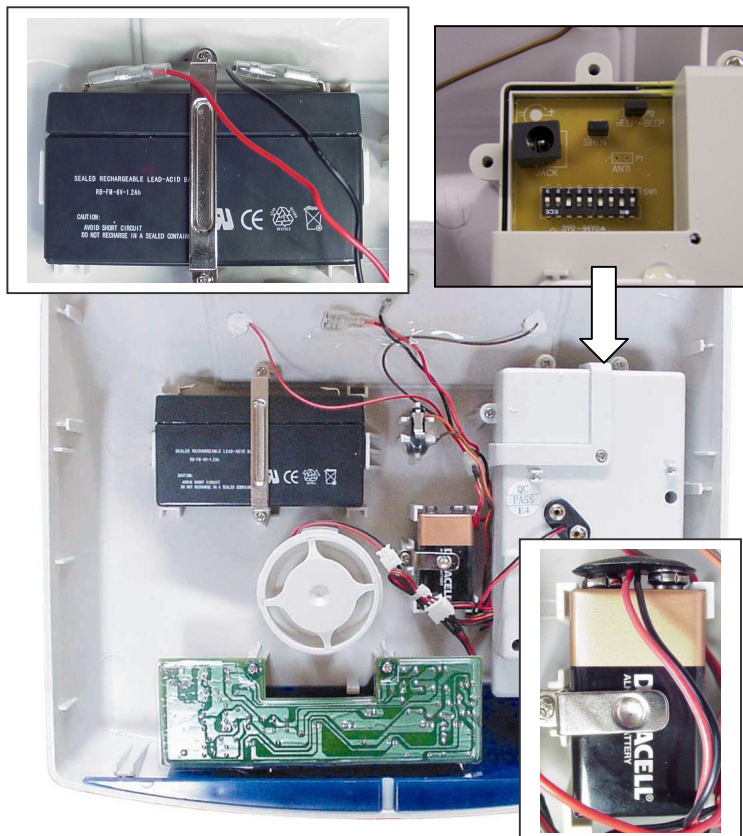

Figure 3
9. First connect the 9V initial power up battery inside the unit to the clip-on connectors. Then connect the rechargeable battery to the charging leads red to red (+) and black to black (-). See figure 3.
<p>Figure 3</p>	<p>Plug the cable into the main control unit as per Fig3.</p>